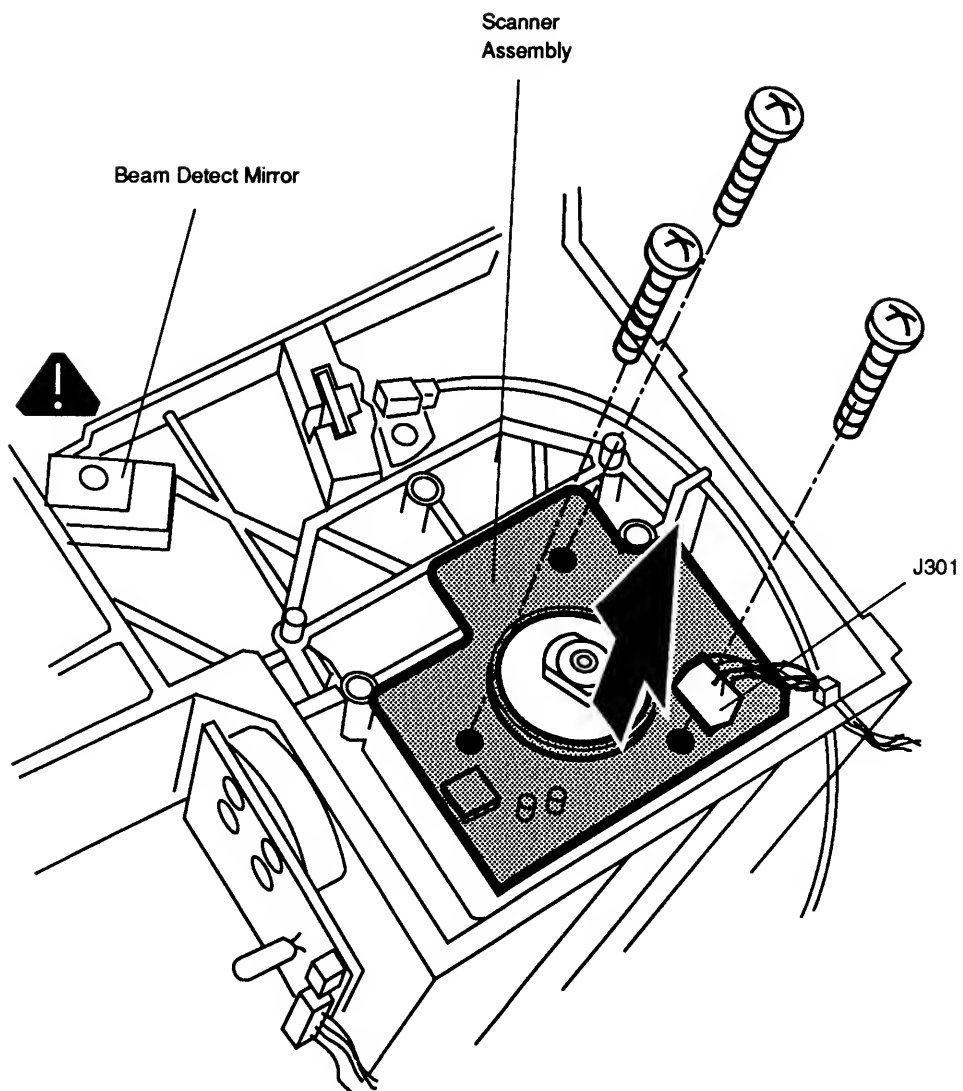

Figure 2-36 Scanner Assembly
3. Disconnect connector J301 from the scanner assembly PCB (**Figure 2-36**).
4. Remove the three long black screws that secure the scanner assembly to the printer chassis (**Figure 2-36**). Carefully lift the scanner assembly out of the printer (**Figure 2-36**).